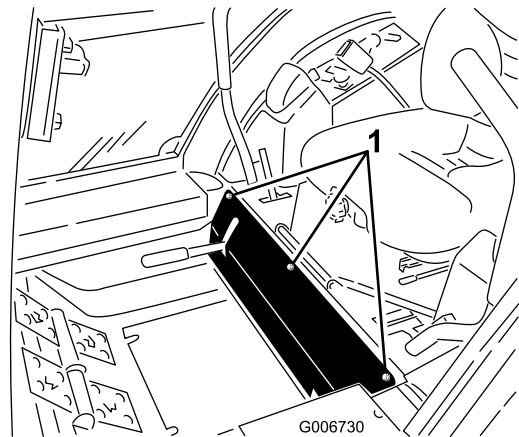

Figure 49
3. Remove the bolts securing the front panel and remove the panel (Figure 49).